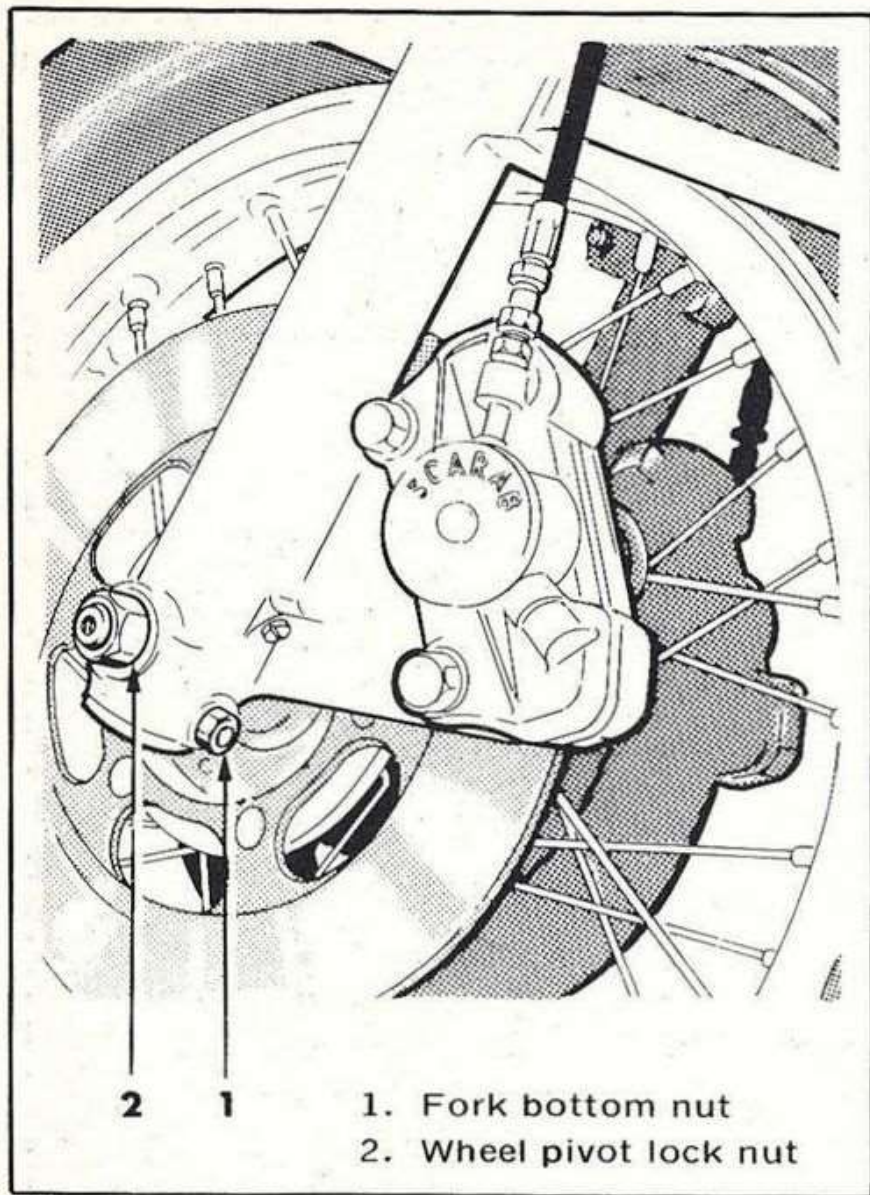

Figure 3-17. Removal of front wheel with disc type brake model
(See figure 3-17)
- c. Loosen both nuts (1, figure 3-17) at the bottom of each fork leg.
- d. Remove nut (2) and wheel pivot.